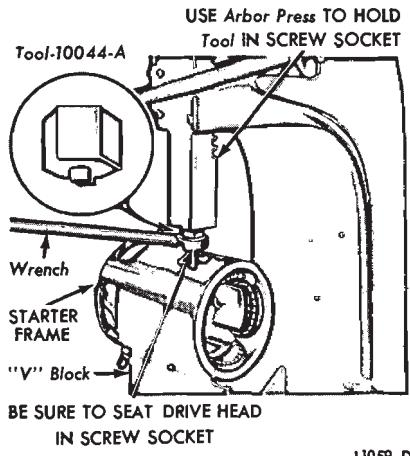

FIG. 9—Pole Shoe Screw Removal
8. Remove the three coil retaining screws, using tool 10044-A and an arbor press (Fig. 9). The arbor press prevents the wrench from slipping out of the screw. Unsolder the field coil leads from the terminal screw, and remove the pole shoes and coils from the frame. Use a 300-watt iron.
es, with the coil leads in the terminal screw slot, and then install the retaining screws (Fig. 9). As the pole shoe screws are tightened, strike the frame several sharp blows with a soft-faced hammer to seat and align the pole shoes, then stake the screws.